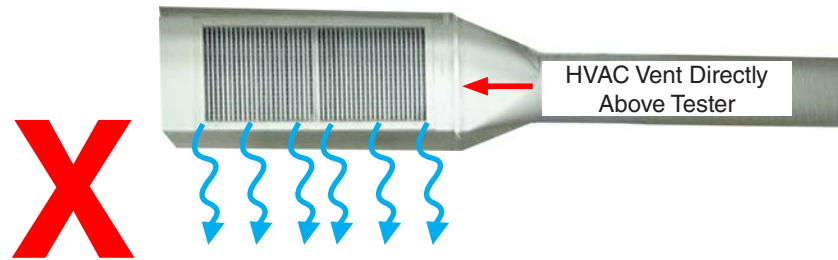

Figure 4.2d: Keep tester away from sources of hot or cold air.
- Do not locate tester near sources of cold or hot air (Figure 4.2d).